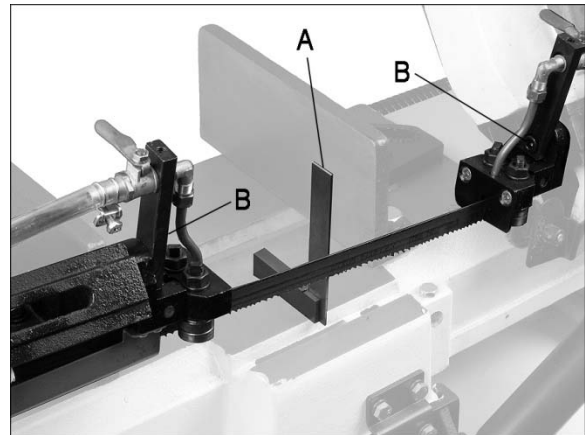

Figure 13
- Place machinist's square (A, Figure 13) on table and against blade.
- If adjustment is needed, loosen screws (B, Figure 13) and rotate blade guide assemblies until blade makes contact with square along its entire width.
- Tighten screws (B).